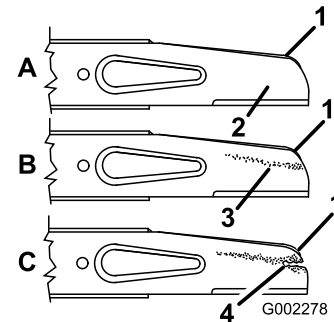

Figure 26
2. Remove the blade bolt, the lock washer, the accelerator, and the blade (Figure 26).